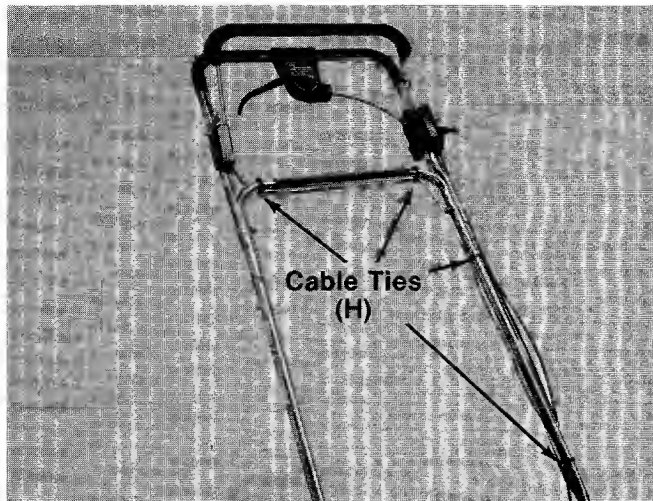

FIGURE 13.
21. Secure all control cables to upper and lower handles with cable ties (H). See figure 13.